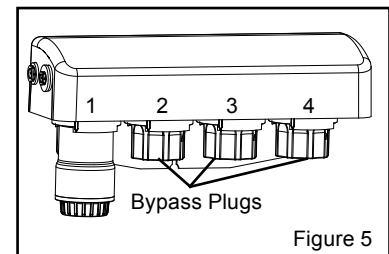

Figure 5
2. Insert the bypass plugs in ports 2, 3 and 4. (Figure 5)